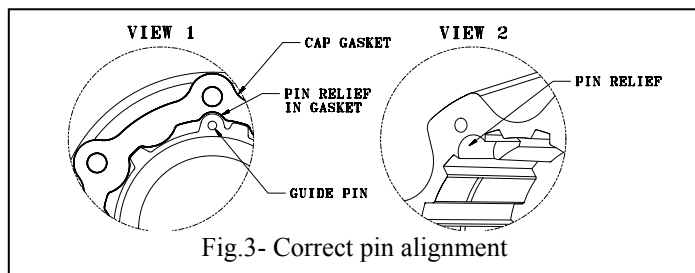

Fig.3- Correct pin alignment
5. Properly align cap gasket on cap assembly. Place cap assembly on body assembly. Align guide pin in cap to relief in body (See Fig.3). Install and tighten the socket head cap screws to 45-50 in. lb.